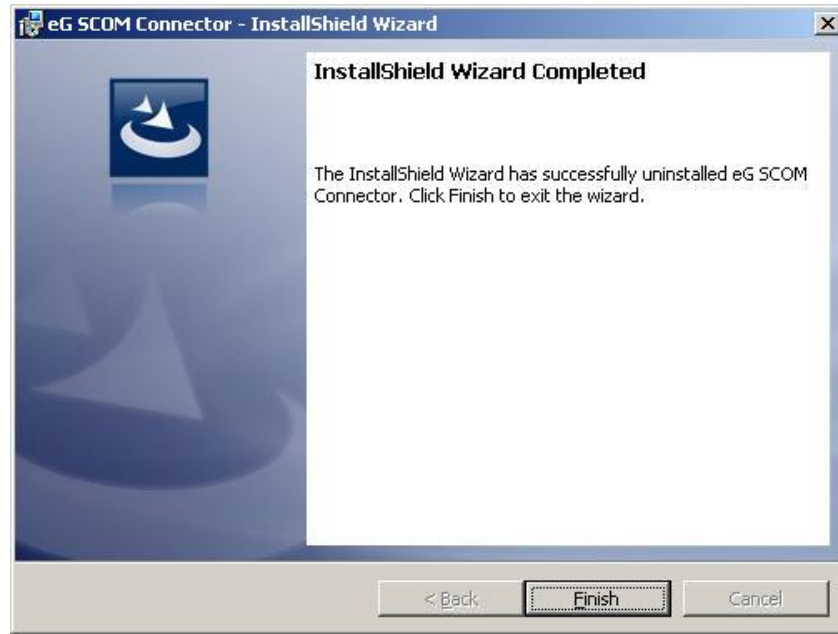

Figure 4.7: End of uninstallation
- Once uninstallation completes, Figure 4.7 will appear. Click **Finish** here to exit the wizard.